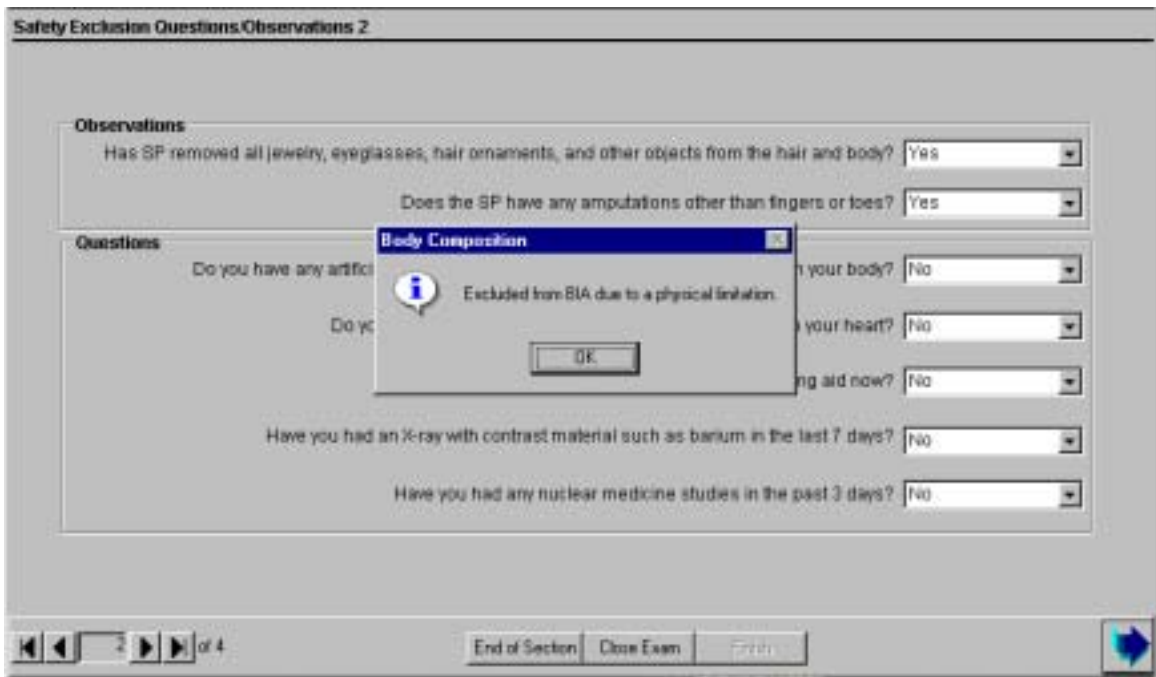

Figure 4-16. Safety/exclusion questions (amputations)
- If the response is yes, the SP will be excluded from BIA but not DXA. See Figure 4-16.
- Continue with the remaining questions. When the Next button is pressed, a message will be displayed: ‘Excluded from BIA due to physical limitation.’ See Figure 4-16.